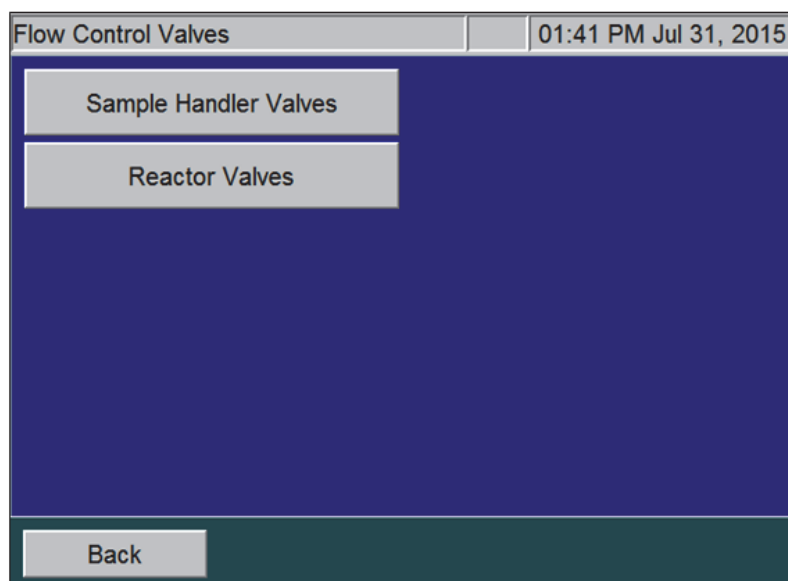
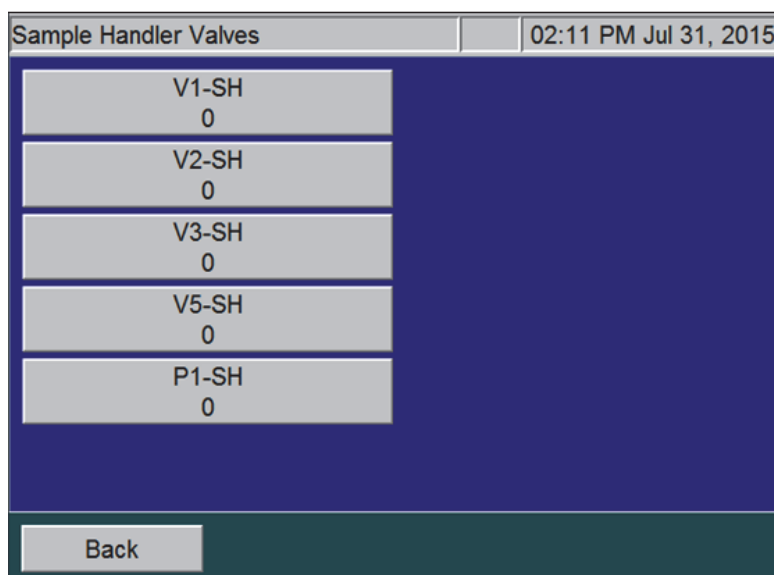

Figure 75: The Flow Control Valves Screen
Figure 76: The Sample Handler Valves Screen
The Flow Control Valves are categorized by Analyzer module, consisting of Sample Handler (SH) Valves and Reactor (R) Valves, as shown in Figure 75. Select the appropriate Flow Control Valves module to show its respective valves. Figure 76 shows the Sample Handler Valves.